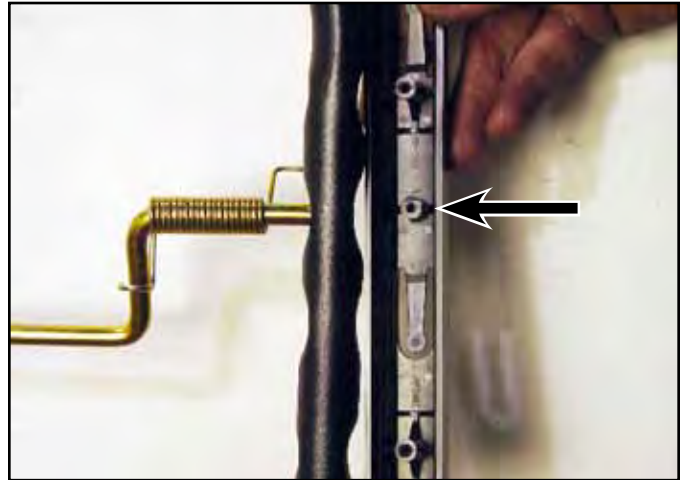

Fig 267
1. There are 3 bosses on the inside of the guide. The top and bottom ones receive the mounting screws. The boss in the photo must line up with the end of the control rod. This boss keeps the rod from moving sideways and falling out of the handle (Fig. 267).